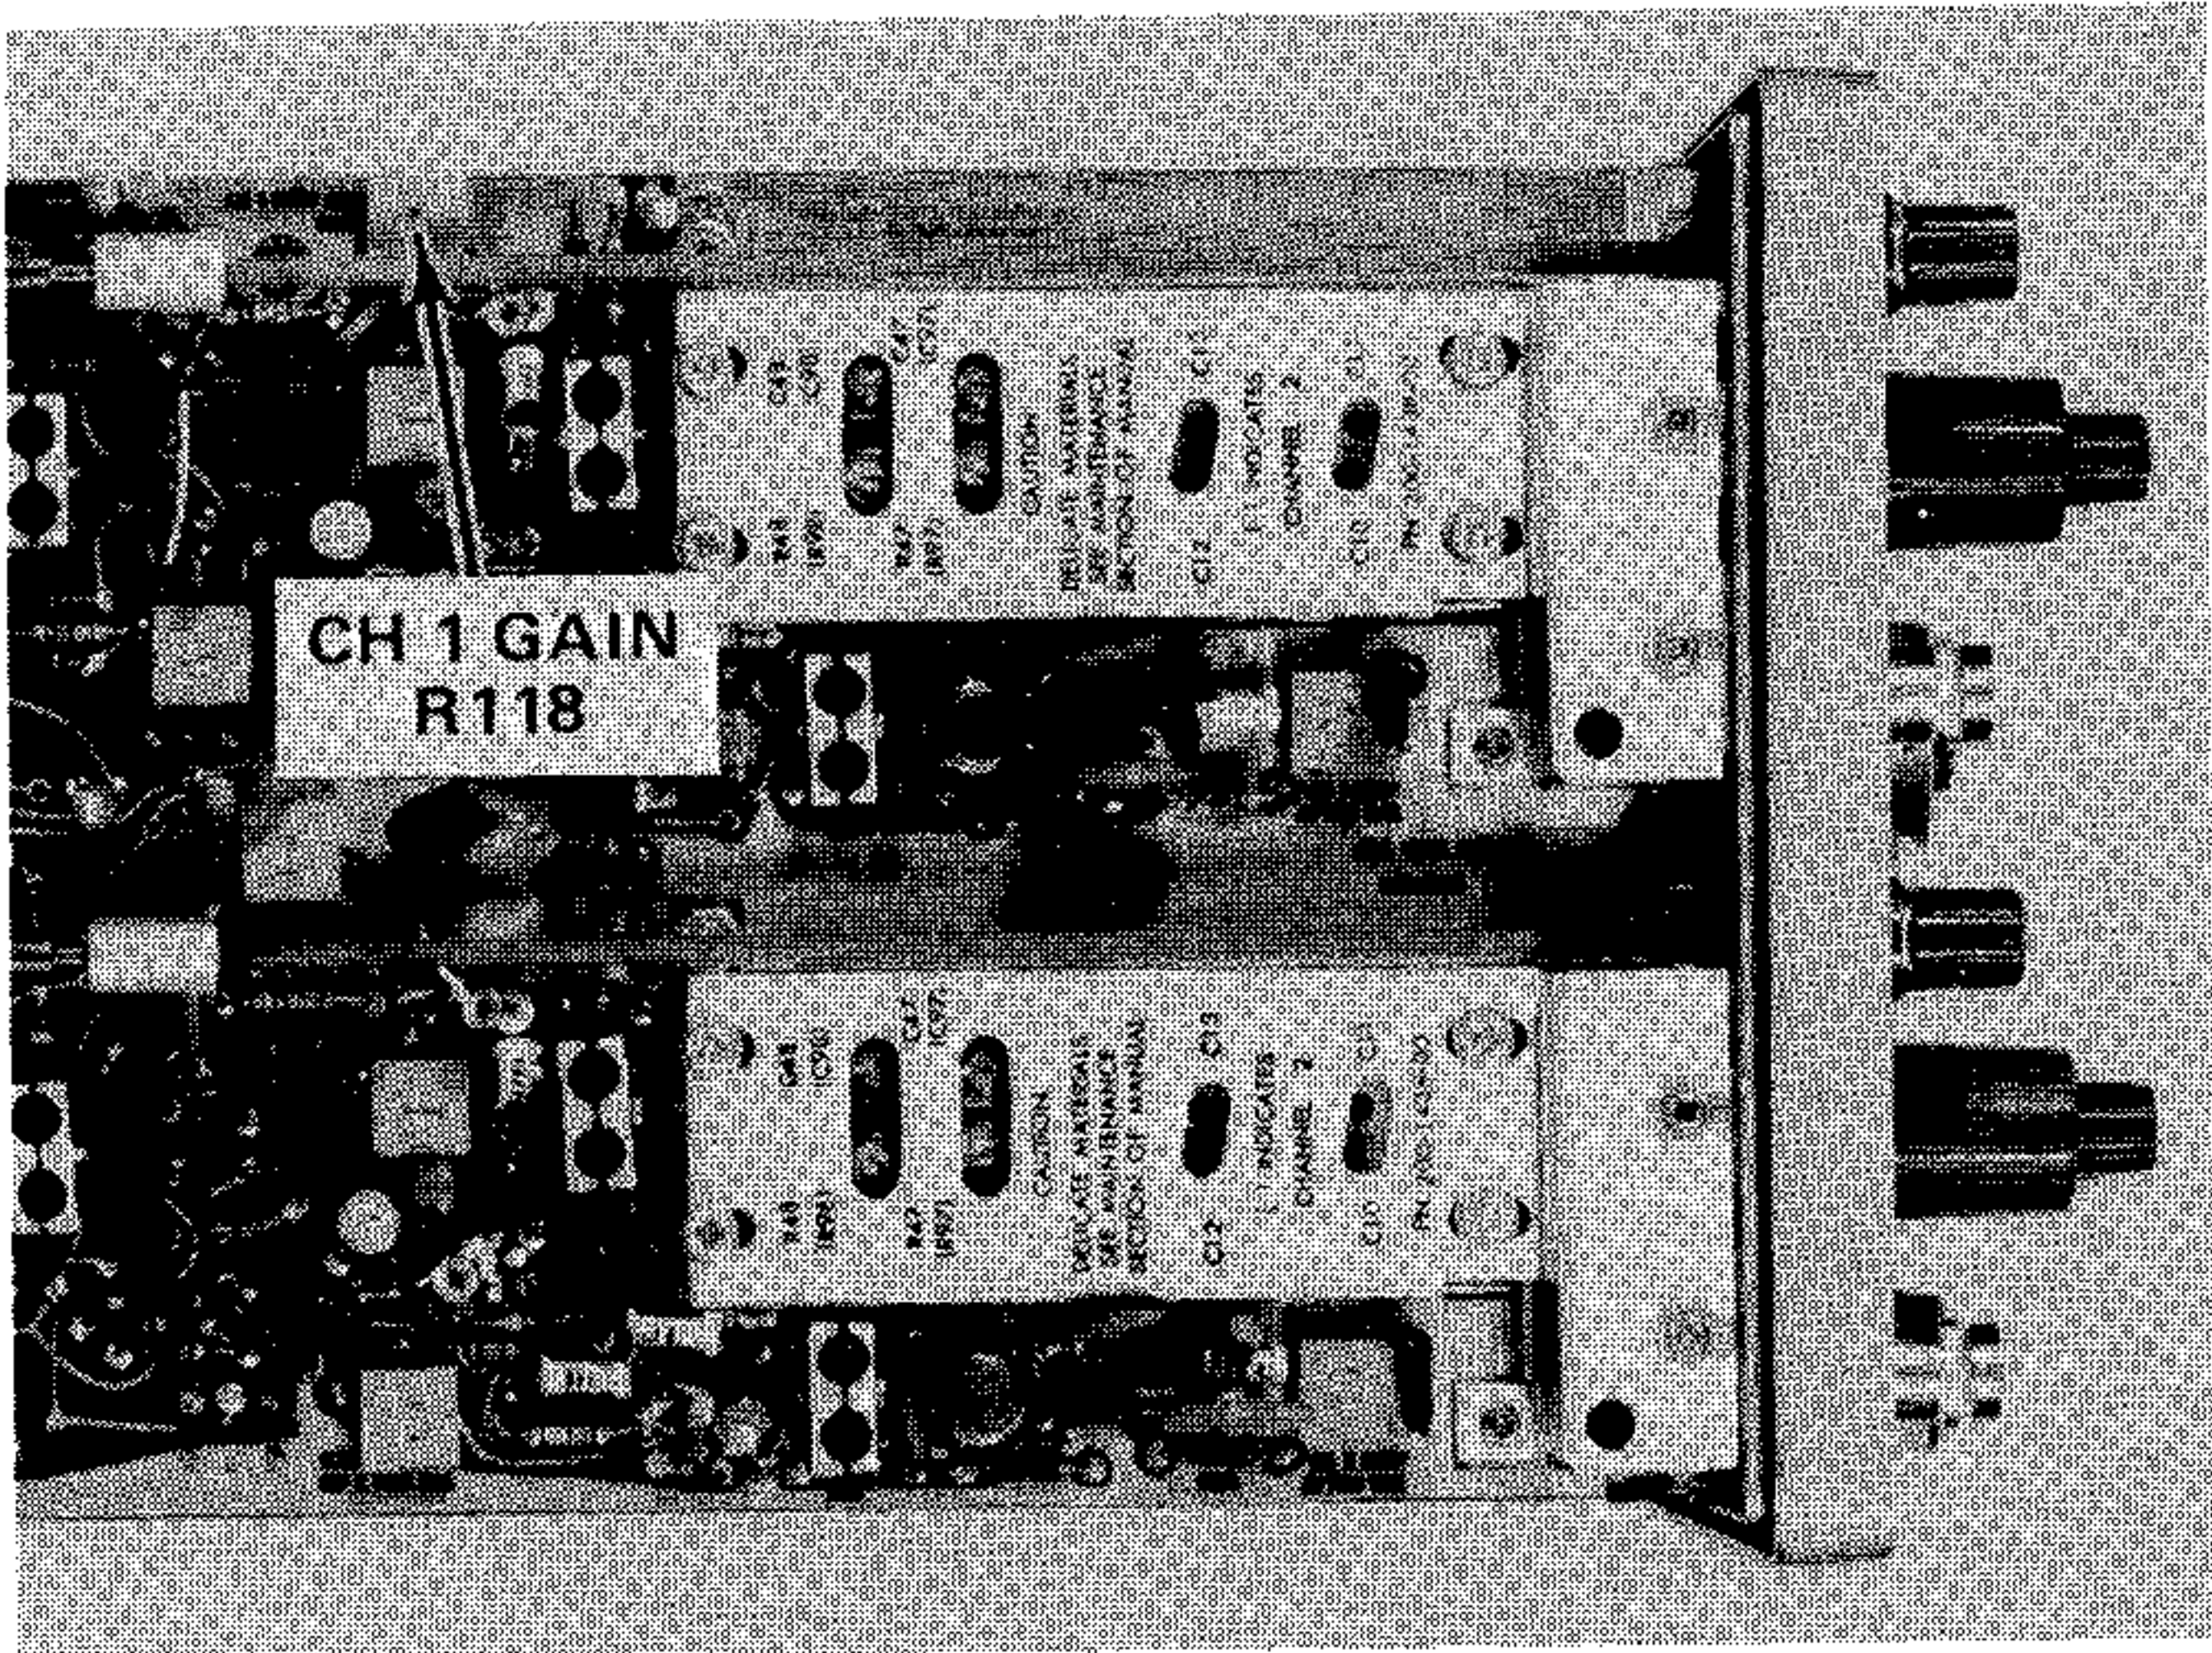

Fig. 5-14. Location of CH 1 Gain adjustment.
- g. ADJUST—CH 1 Gain adjustment, R118, (see Fig. 5-14) for 200 mV (peak-to-peak) display on the Test Oscilloscope. (NOTE: This is a nominal value for this adjustment and may vary from instrument to instrument.